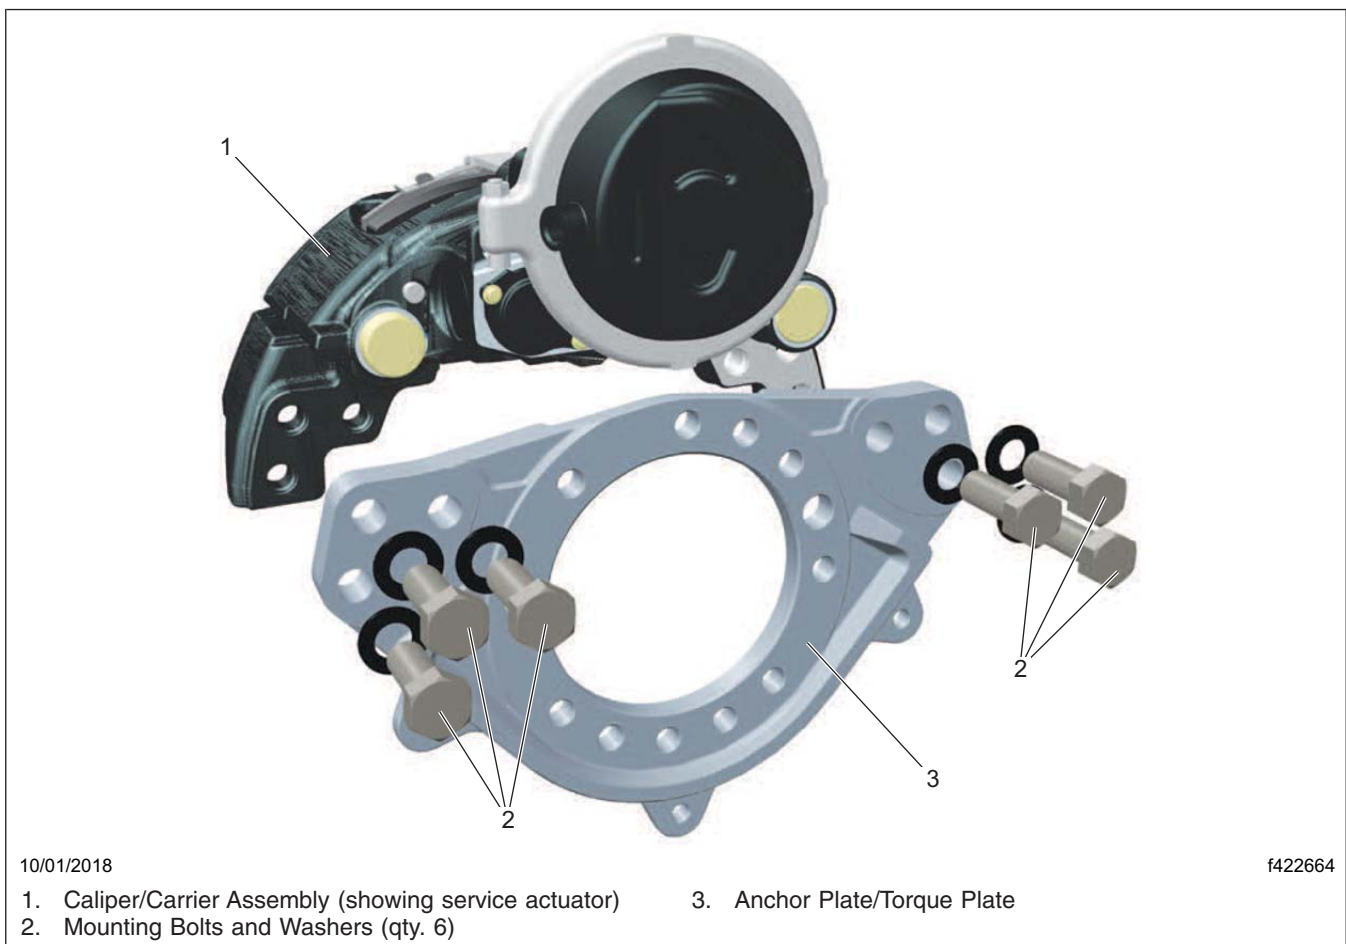

Fig. 1, Bendix Axial Mounted Caliper
5. Align each caliper/carrier assembly with the rotor by pushing the caliper against the shelf on the torque plate, then install the caliper/carrier assembly using new caliper mounting bolts. See **Fig. 1**.
NOTE: The Meritor axial mounted caliper is similar to the Bendix axial mounted caliper shown in Fig. 1.